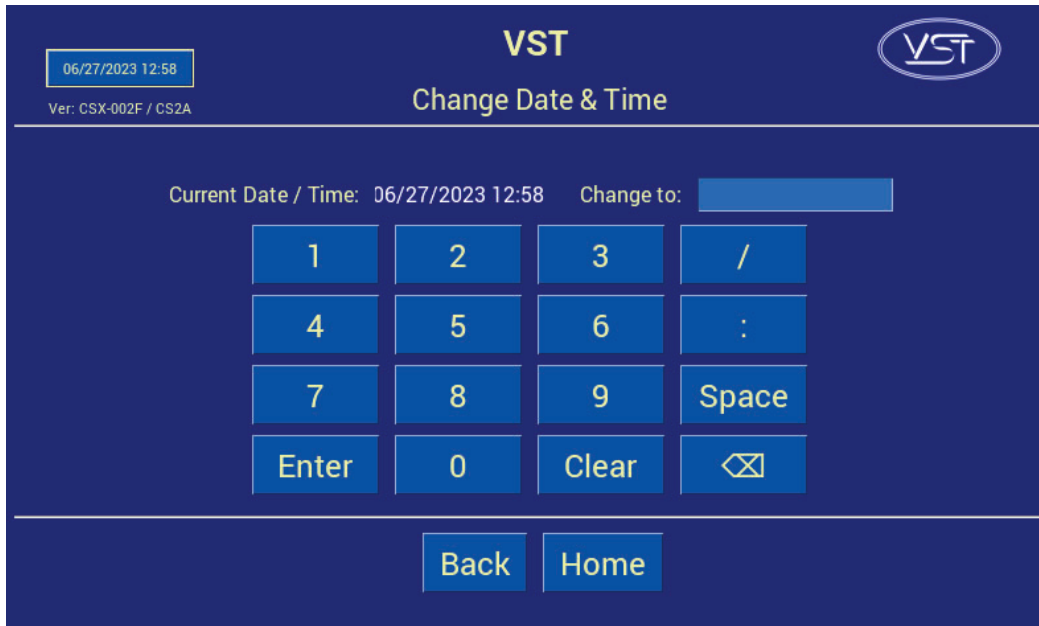

Figure 6-8: Date and Time Screen
2. On the Date and Time Interface Screen, insert the Date: (MM/DD/YY) then the Time: (HH:MM). **See Figure 6-8.**